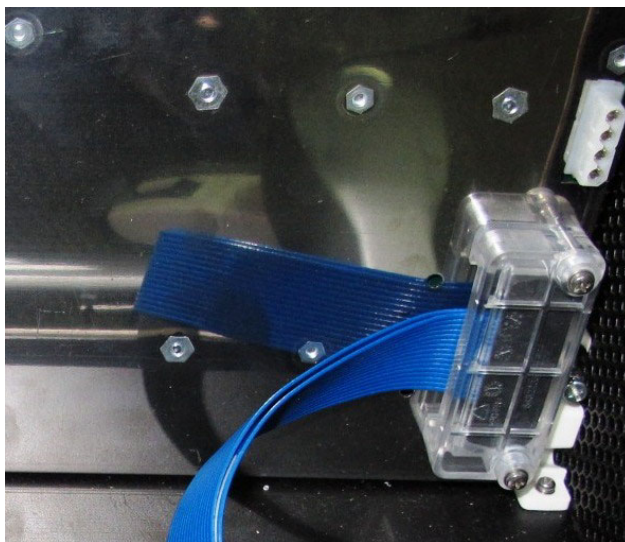

Figure 8-132 HDR Flex Cable Bracket Located on BEP
3.) Unscrew the two securing screws securing the HDR flex cable bracket located on the BEP as shown in Figure 8-132 below.